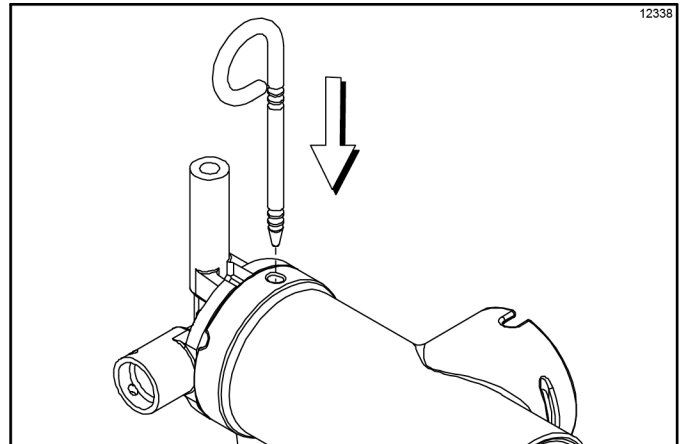

Figure 6-36
9. Secure the pump parts in position by sliding the retaining pin through the cross holes located at one end of the pump cylinder. (See Figure 6-36.)